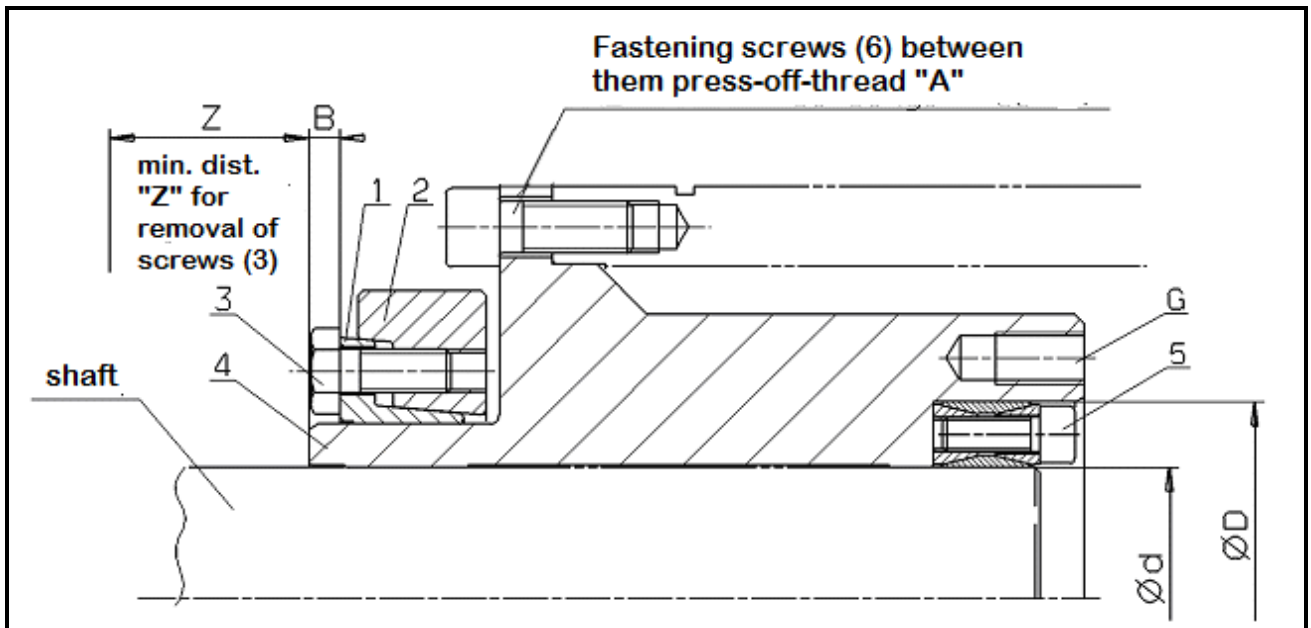

Fig. 2.1
- Loosen the fastening screws (6).
- Pull the electric motor off of the RTM 608 Clamping System. Use press-off threading “A” (see Fig. 2.1 and Table 2.1) to facilitate the procedure if necessary.
- Loosen the clamping screws (3) one by one in several increments of one-quarter turn each. This helps prevent screw breakage and clamping surface tilting.
- Pull the centring bushing (4) off of the shaft. Use press-off threading “G” (see Fig. 2.1 and Table 2.1) to facilitate the procedure if necessary.